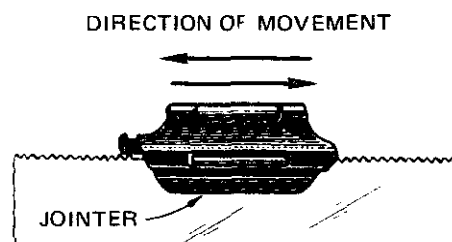

Fig. 7-11 Jointing with a handsaw jointer
- b. Fit the saw jointer over the teeth of the blade as shown in figure 7-11.